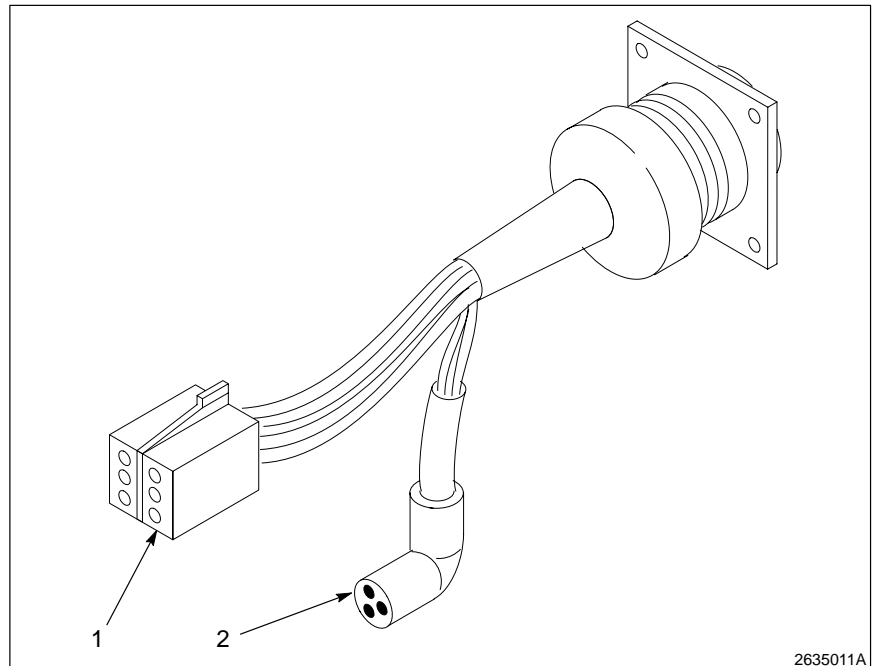

Fig. 6-1 Powder Bell Mount Internal View
4. See Figures 6-1, 6-2, and 6-3 and refer to Table 6-1. Remove the powder bell from its mount and measure the voltage at the multiplier cable connector (1). With the kV set point at maximum, the voltage across pins 1 and 3 should measure approximately 21 Vdc.